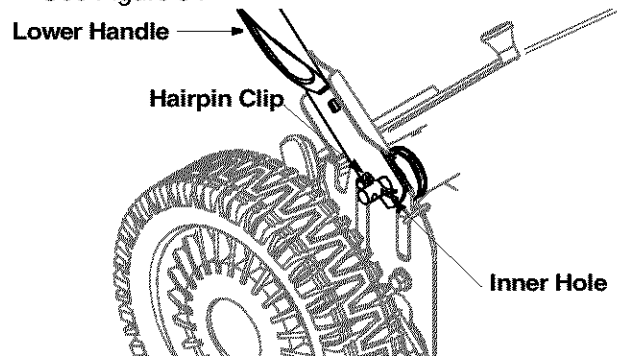

Figure 5
- Using a pair of pliers, insert the hairpin clip into the inner hole in the weld pin. Repeat on the other side. See Figure 5 .